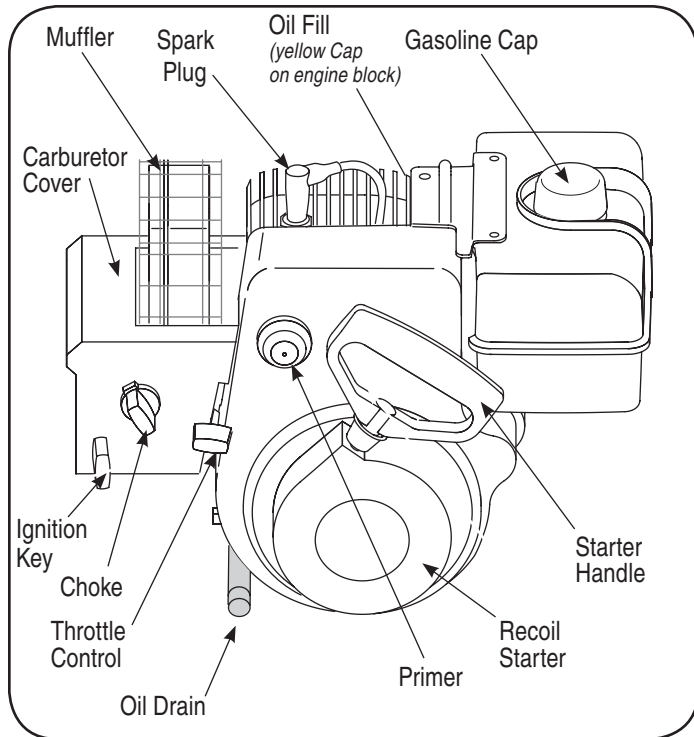

Figure 7
**NOTE:** For location of all the engine controls referred to in this section, refer to Figure 7.